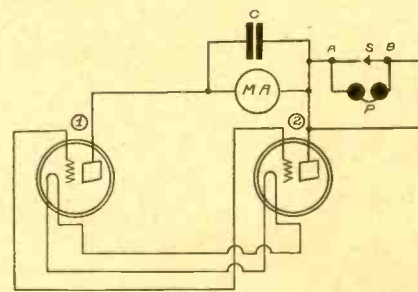

FIG. 3
The schematic diagram is shown in Fig. 3. The tube symbol (1) is not a tube, but the plug. The tube is in the tester socket (2). The phone tip jacks are A and B, the switch is S, the phones are P and the fixed condenser is C. A good value for C is .5 mfd., but other values may be used.